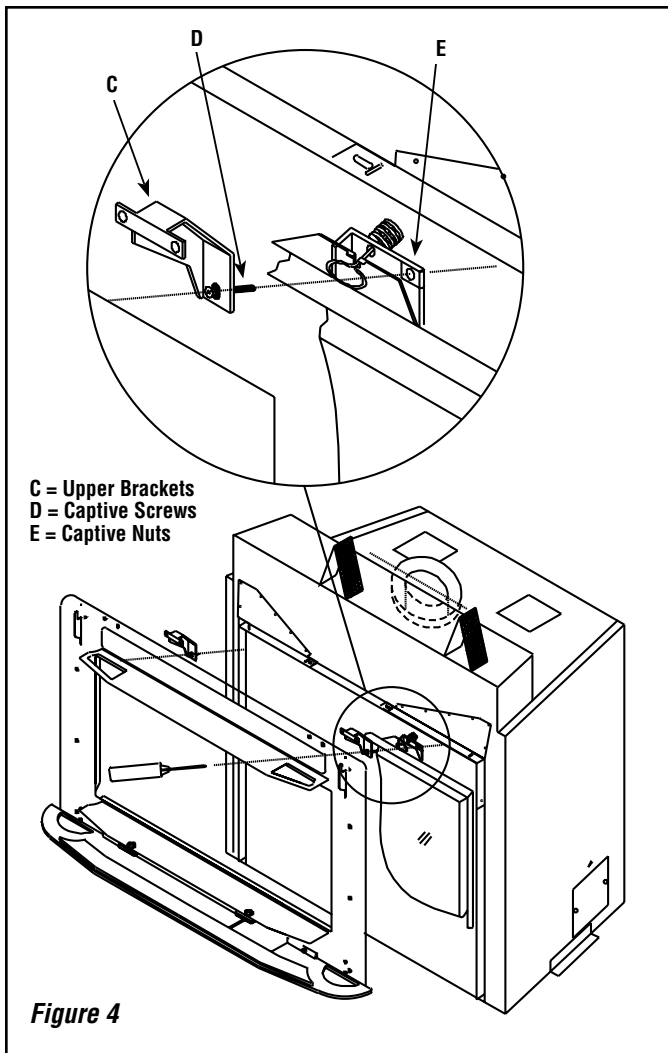

Figure 4
- The upper brackets (see C in **Figure 4**), which were installed on the backing plate following the instructions on the previous page, contain a captive screw (see D in **Figure 4**). The captive screws D on these brackets should be screwed into captive nuts (see E in **Figure 4**) on the fireplace. A phillips head screwdriver inserted through the large hole in the backing plate can be used to complete this task.